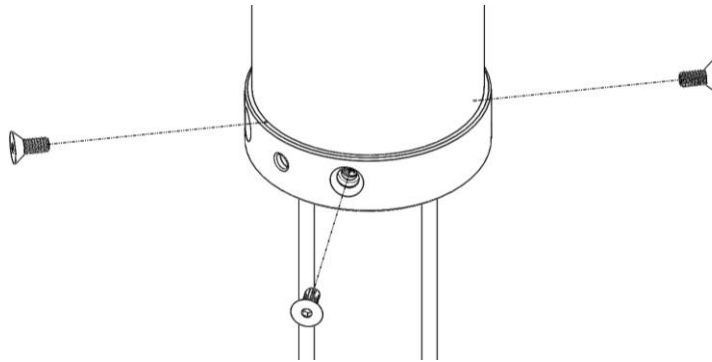

FIGURE 6
6. Apply Loctite to the threads of four *flat head screws* (EL 19185) and insert screws through the top housing. Thread screws into the insert as shown in Figure 6.